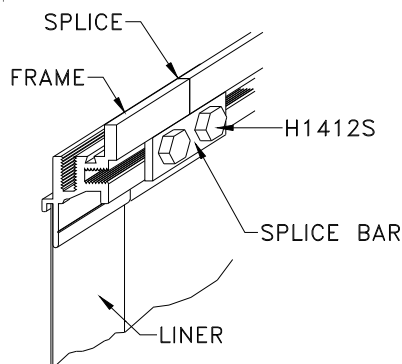

Figure 11
**STEP 5.** Attach the splice bar to the to the frame sections using the fasteners (part no. H1412S) provided by the factory (see Figure 11).